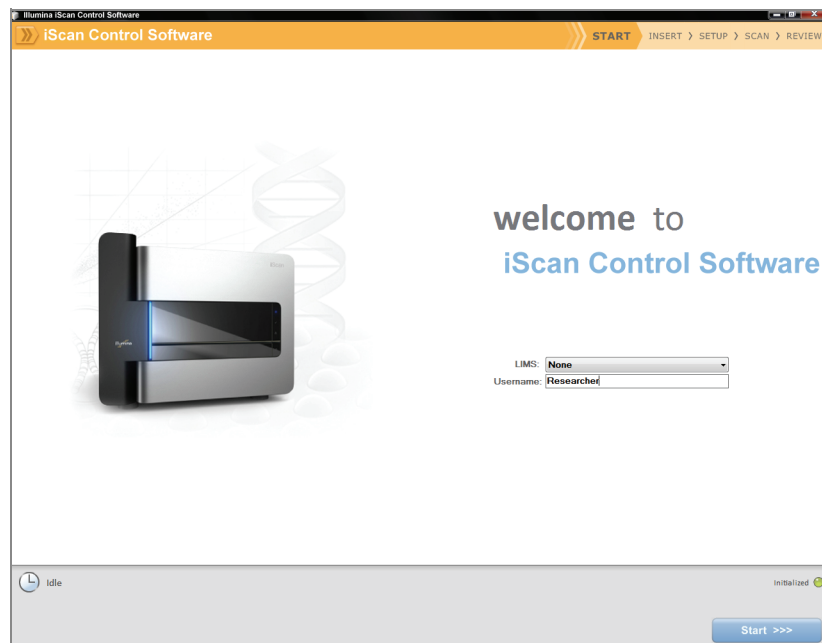

Figure 77 Welcome Window
3. Set the **LIMS** dropdown list to **None** and enter your Windows user name (Figure 77).